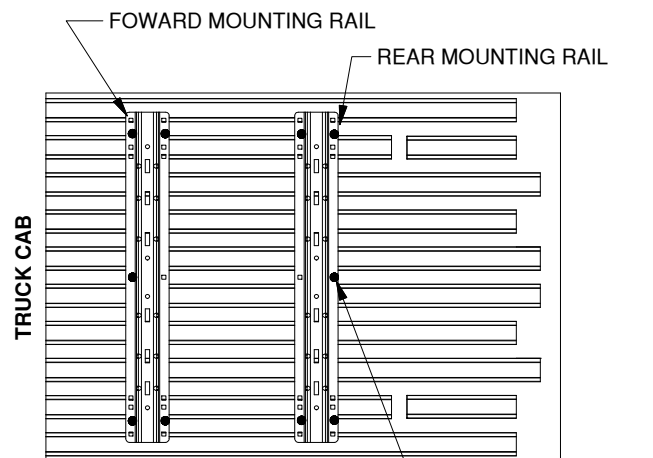

Figure B2: View over bed, showing drill locations for the bed rails.
2. **Mark hole locations.** While carefully ensuring the mounting rail does not move, use a center punch tool to mark the 5 drill locations on the rear rail. See Figure B2 for hole marking locations for this installation (forward rails will install in a later step). Once all 5 rear rail locations are clearly marked, move the bed rail out of the way and drill each location with an 1/8" drill bit.
2. **Drill forward mounting holes.** Using the same methods as used for the rear mounting rail mark, drill, check, and enlarge the holes for the forward mounting rail. Refer to "DRILL REAR MOUNTING HOLES" section, Steps 1 through 4, on previous pages. Notice that the hole locations are slightly different than the rear rail, see Figure B2 (on page 2).